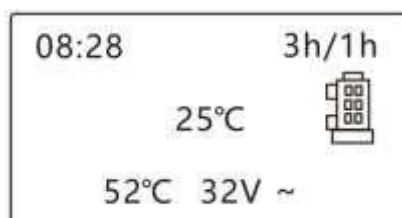

Figure 13
- c. State view: press and hold  button, original display chlorine production, now change to display controller internal temperature, operating voltage, liquid level detection, shown as figure 13. Note: the state view function is convenient for trouble shooting.